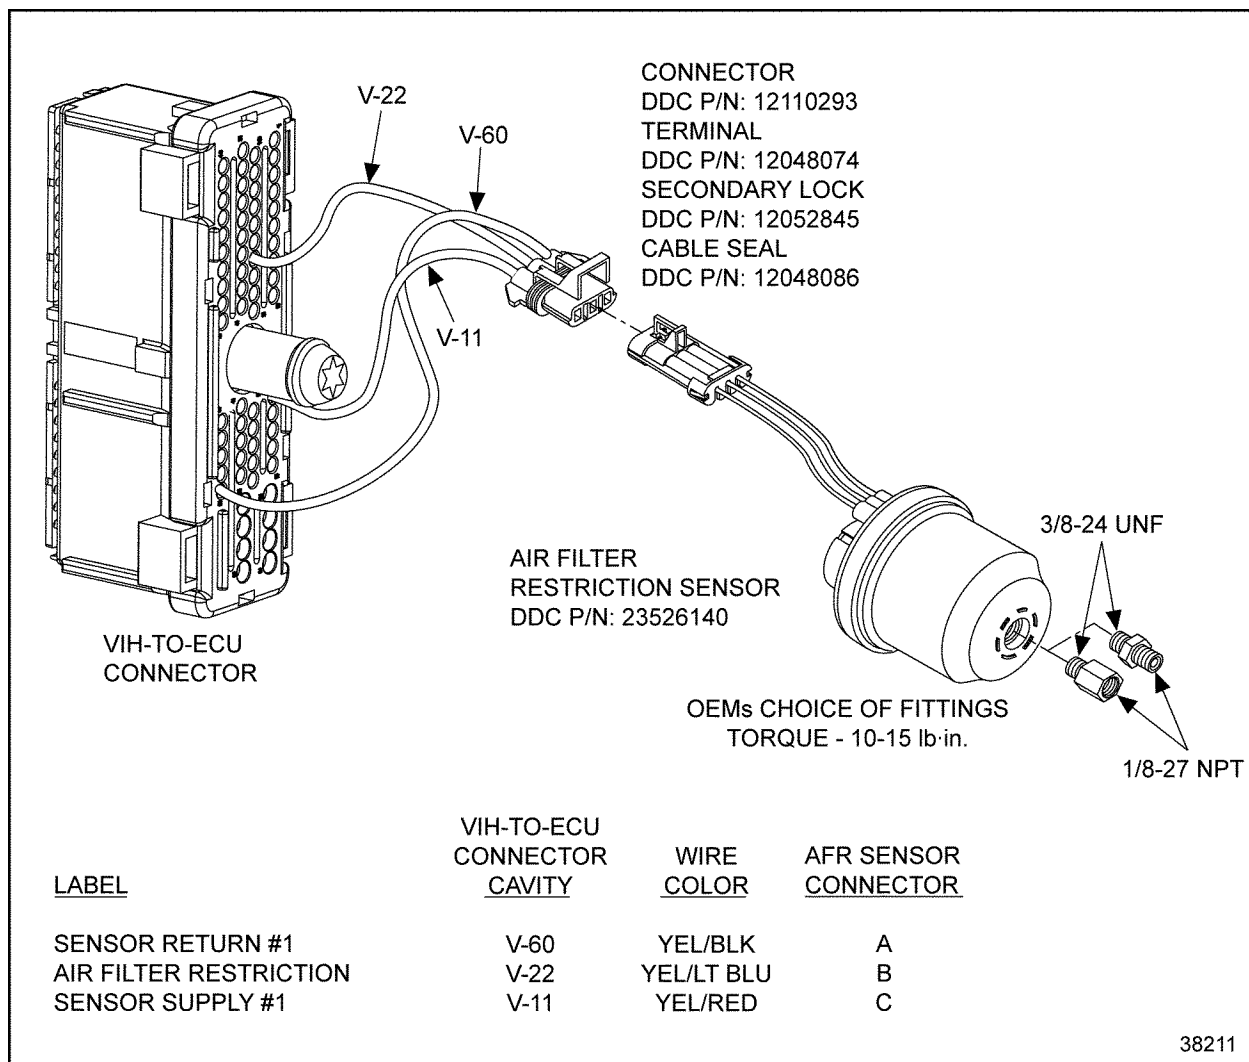

Figure 61-1 Air Filter Restriction Sensor Wiring Diagram
2. Disconnect AFRS connector. See Figure 61-1.
3. Install a jumper wire between pin A and pin B of the AFRS harness connector. See Figure 61-1.